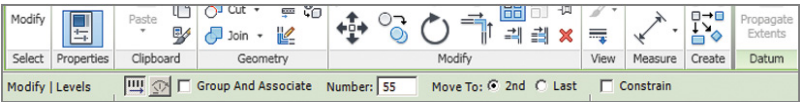

FIGURE 7.10 Array options
- 2. Because Level 10 is at an elevation of 150'-0" (45 m), you need to create an array with the options shown in Figure 7.10. These options can be adjusted in the Options Bar below the ribbon.